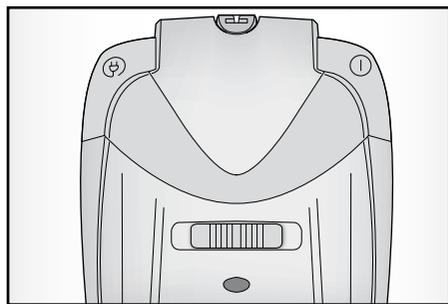

Fig. 4
First of all, before using this appliance, unwind the power cord fully and plug it in. To switch on, press the On/Off switch (F) on the vacuum cleaner (FIG. 4).
It's possible to regulate the power of aspiration as wished using the sliding lever (D) (FIG. 4). We recommend minimum power when cleaning delicate materials, medium for mattresses, upholstered furnishings and carpets, and maximum power on floors in tiles, wood or other hard-wearing materials.